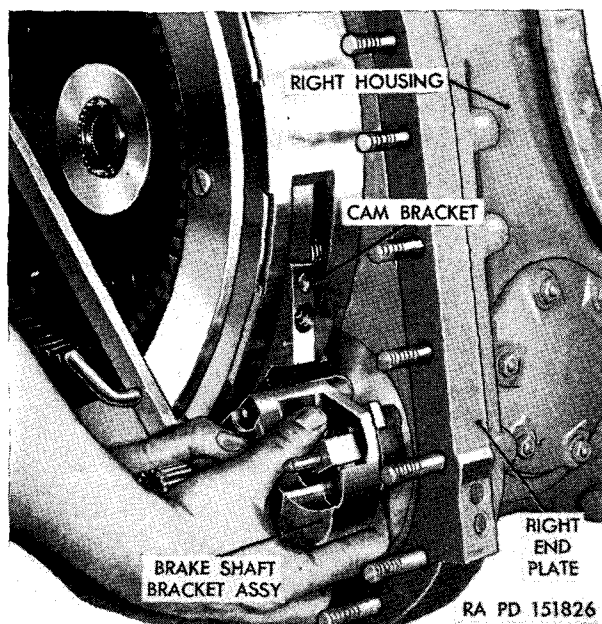

Figure 87. Removing brake-shaft bracket assembly.
- (7) Using a ⅝-inch wrench, remove four bolts from the brake-shaft bracket. Lift the brake-shaft bracket assembly off the two dowel pins (fig. 87).